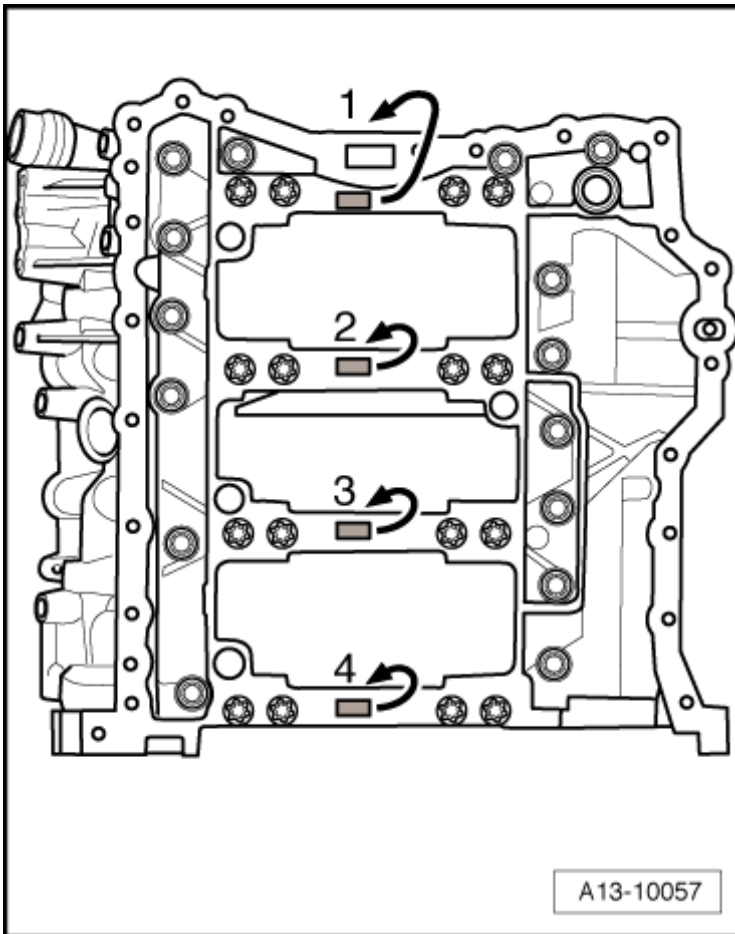

Fig. 6: Allocation Of Crankshaft Bearing Shells For Cylinder Block
- Insert new bearing shells for cylinder block with proper color marking, refer to **Fig. 6**